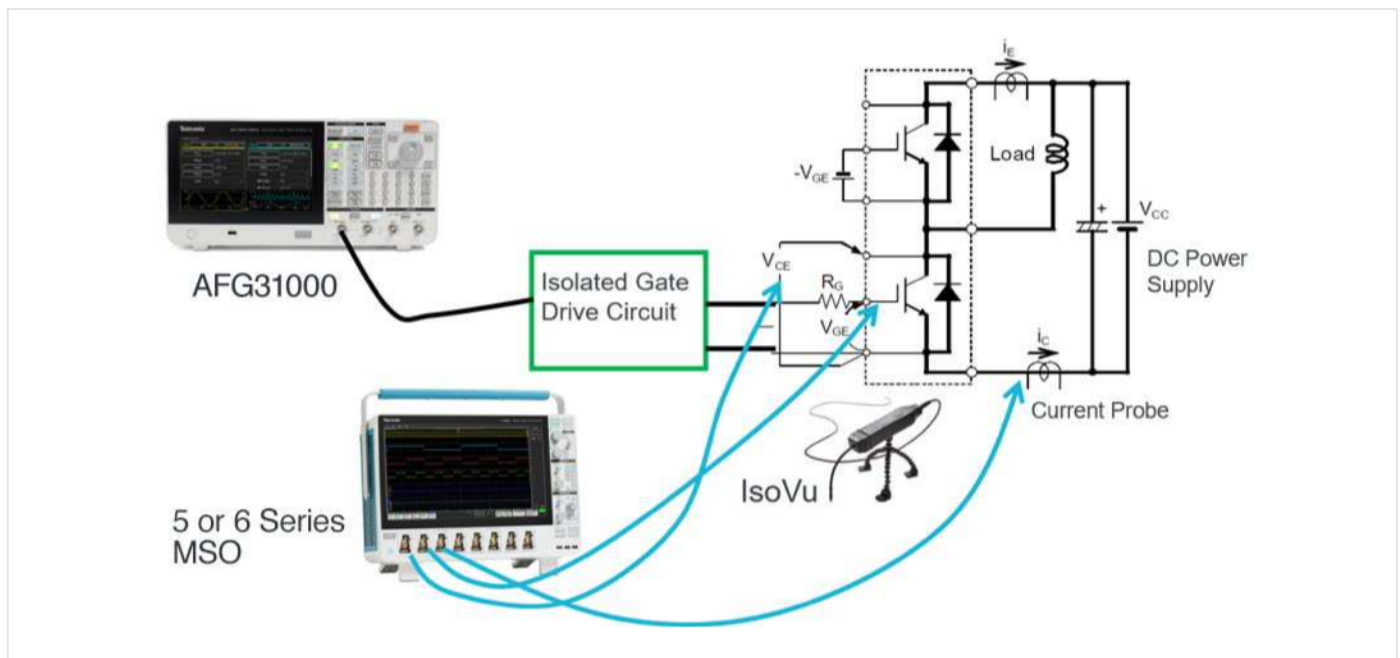

Figure 9: Double Pulse Test Setup.
**Figure 9** shows the equipment setup for running a Double Pulse Test. The following equipment is required: